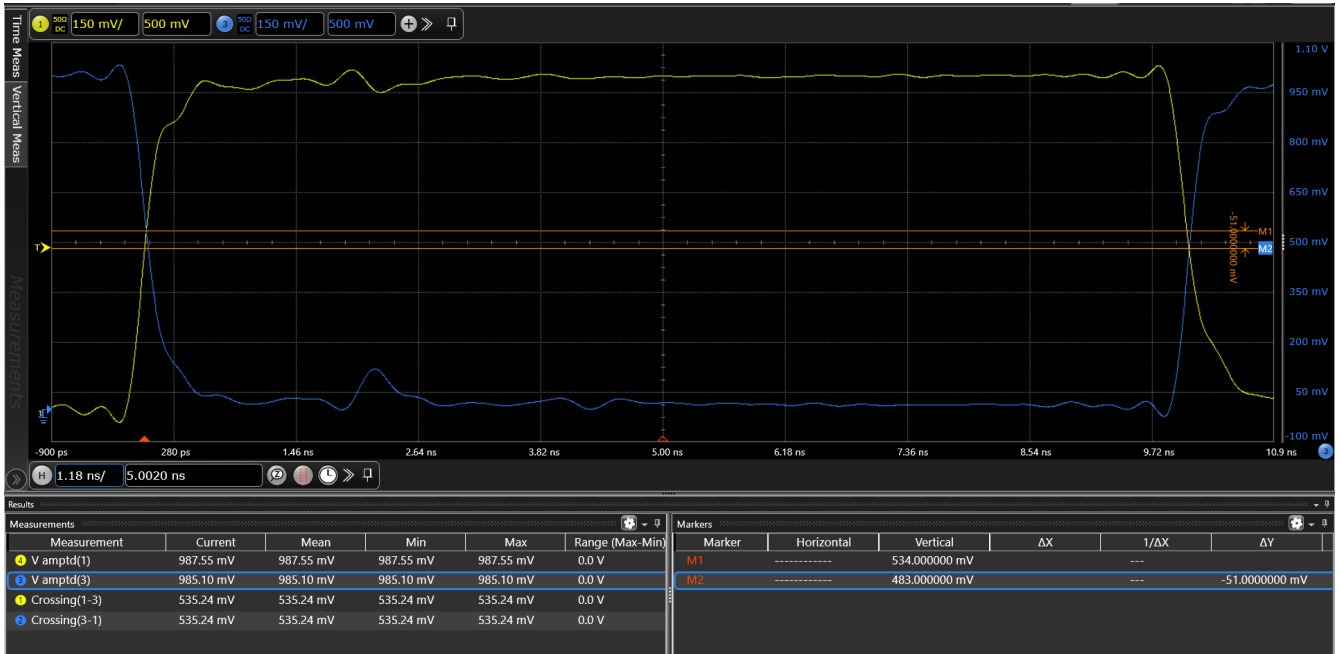

Figure 22. Vcross – HCSL External Termination, Boost = 30% on OUT0 (yellow trace) and nOUT0 (blue trace)
- Figure 22. Vcross – HCSL External Termination, Boost = 30% on OUT0 (yellow trace) and nOUT0 (blue trace)12